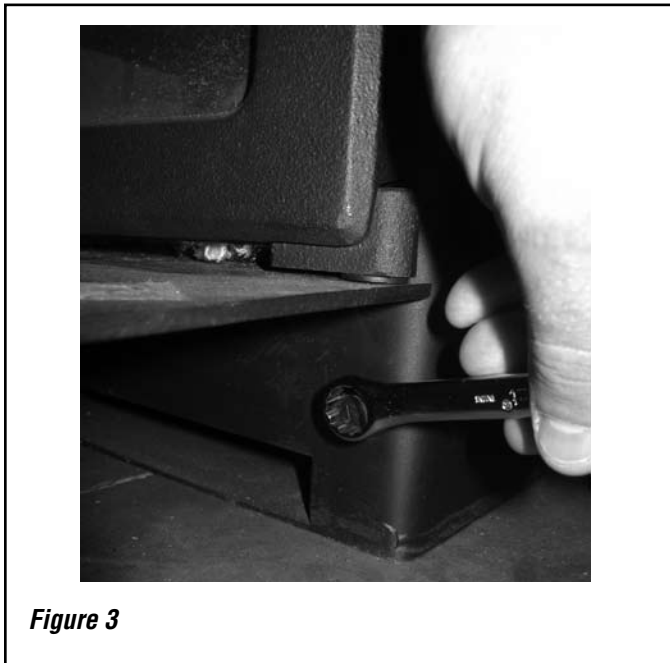

Figure 3
- Step 3.** Loosen the two blower mounting bolts below ash lip on both sides of front of insert, with 9/16" wrench. See **Figure 3**.